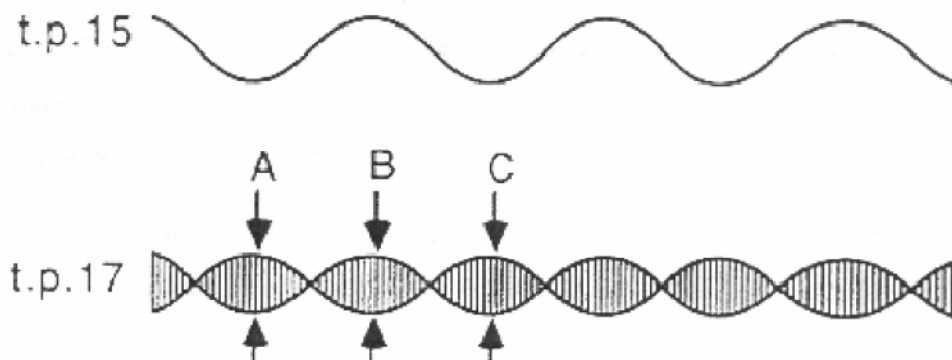

Figure 2: Modulating and Modulated Signal waveforms
6. Next, examine the output of the balanced modulator block (at t.p.17), togetherwith the modulating signal at t.p.15 trigger the oscilloscope on the modulating signal. Check that the waveforms are as shown Fig. 2.